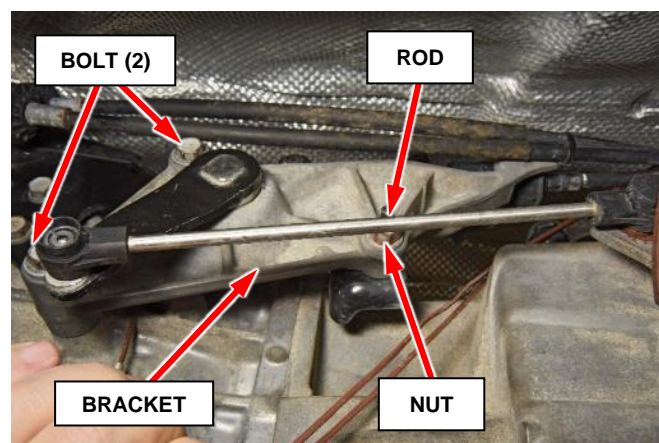

Figure 11 – Rod Bracket
25. Disconnect the rod from the bracket ball stud, then remove the two bolts and nut attaching the transfer case rod to the bracket and position aside (Figure 11).
72. Install the transfer case rod bracket and tighten the 2 bolts and nut to 24N·m (18ft. lbs.) (Figure 11).
73. Attach the transfer case rod to the ball lever, use channel lock style pliers to press the rod back on the lever (Figure 11).